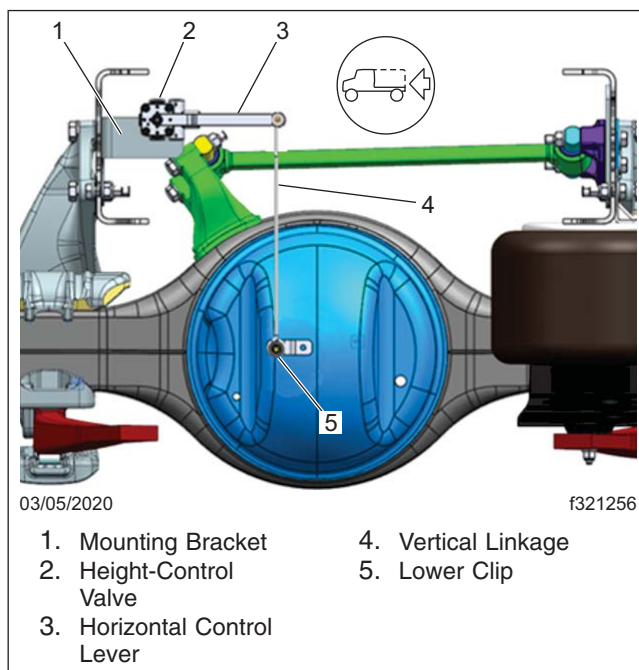
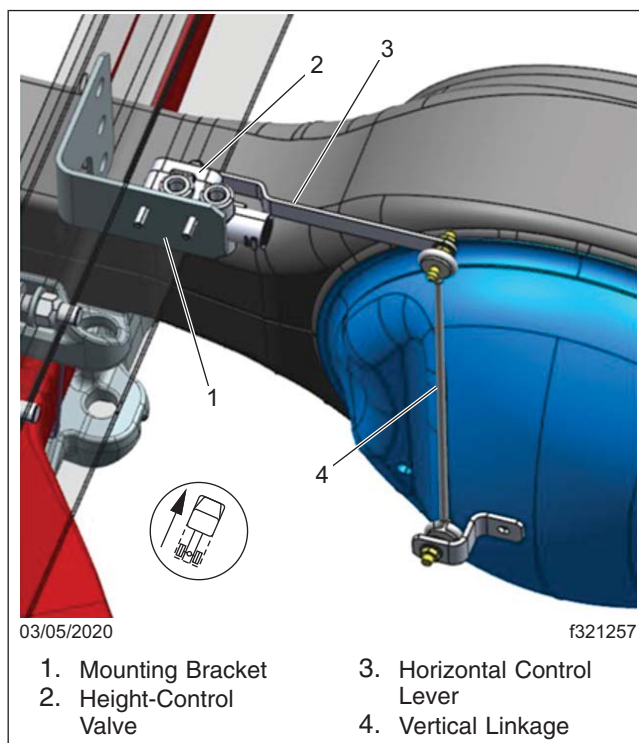

Fig. 1, Height Control Valve Mounted on Rear of Mounting Bracket
Fig. 3, Height Control Valve on the Forward Side of the Mounting Bracket
6. Remove the nut and washer that attaches the existing height-control valve lever arm linkage to the lower clip on the axle housing. See Fig. 1.
8. Relocate the height control valve to the forward side of the mounting bracket (see Fig. 3) :
9. Install the new linkage (part number 16-14494-002). See Fig. 3.
10. Connect the linkage to the valve lever and lower clip on the axle housing. See Fig. 1 and Fig. 3.